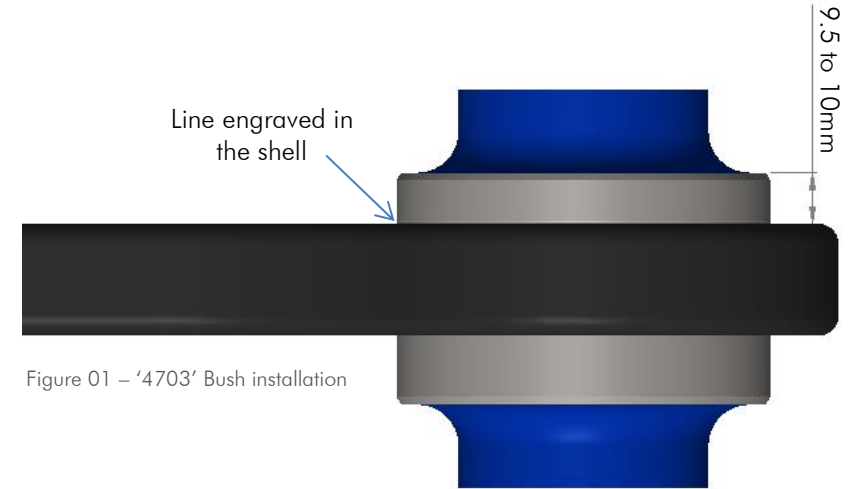

Figure 01 – '4703' Bush installation
- After aligning the '4703' bush, press it into the housing until it reaches the line engraved in the shell. Note that the side of the shell with the line engraved should be located towards the outside of the vehicle, see Figure 01.